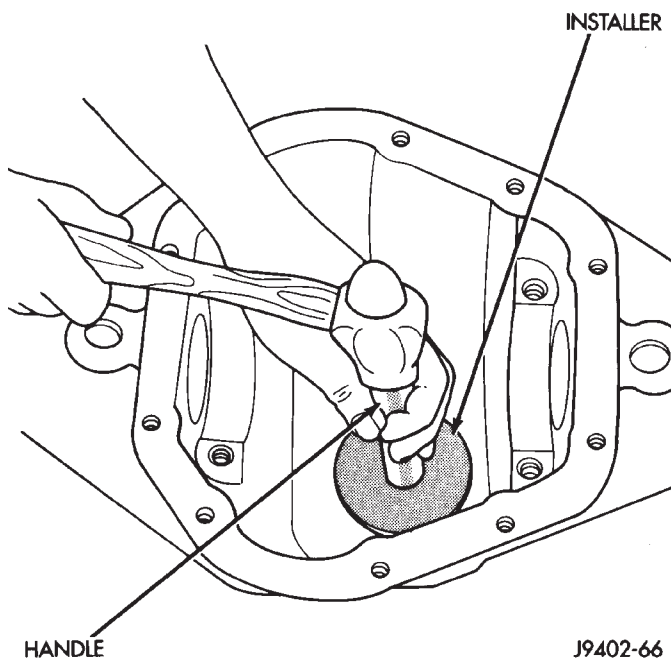

Fig. 33 Rear Pinion Bearing Cup Installation
(1) Place proper thickness depth shim in rear pinion bearing cup bore in the axle housing.
(2) Apply Mopar® Door Ease, or equivalent, stick lubricant to outside surface of rear pinion bearing cup. Install the bearing cup with Installer D-145 and Handle C-4171 (Fig. 33). Verify cup is correctly seated.